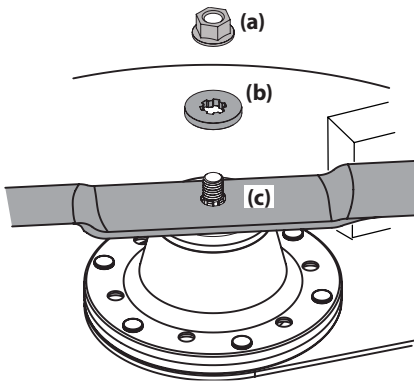

Figure 48
2. Remove the flange lock nut (a) and flat washer (b) from the spindle shaft and remove the blade (c). See Figure 48.